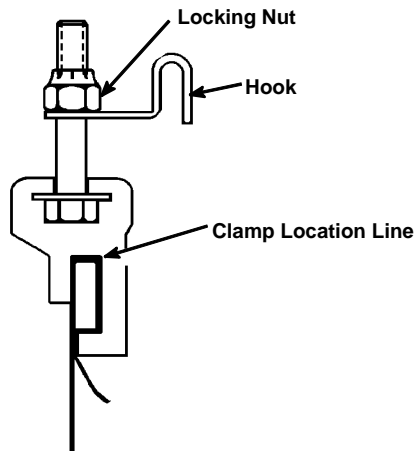

Figure 14. Placing the Hook and Locking Nut
- e. When the wedge clamp is attached to the sign face using the hook method, place the hook and a locking nut on the bolt. See Figure 14.